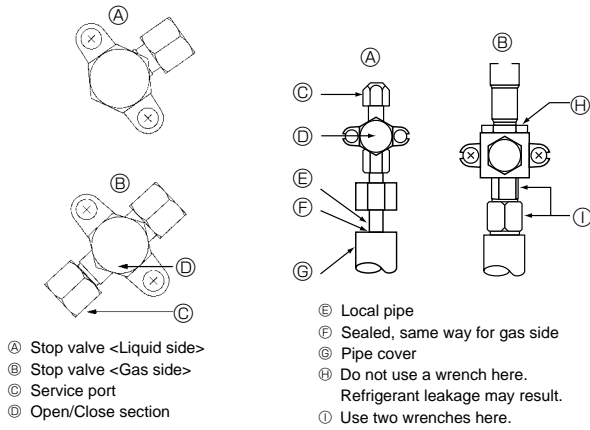

Fig. 4-4
4.4. Refrigerant pipe airtight testing method (Fig.4-4)